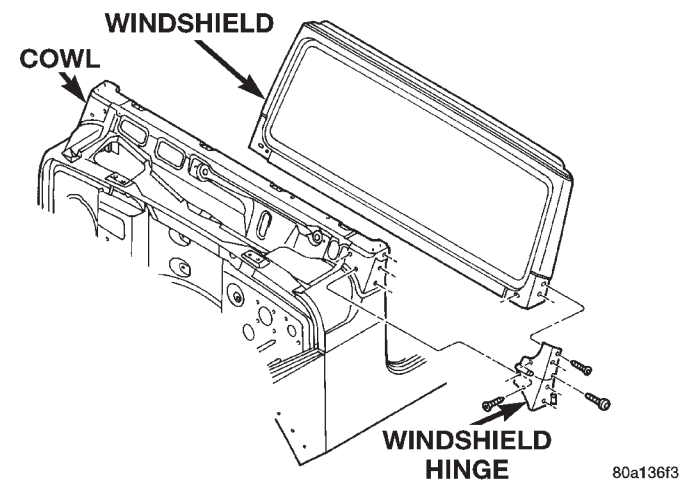

Fig. 10 Windshield Hinge
(1) Remove door.
(2) Remove the bolts attaching the hinge to the cowl (Fig. 10).
(3) Remove the bolts attaching the hinge to the windshield frame.
(4) Separate the hinge from the vehicle.